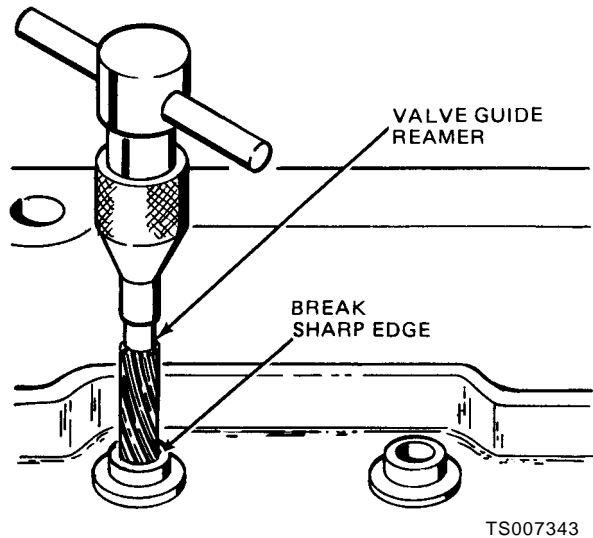

Figure 6-14. Reaming Valve Guides.
(5) Align the stud and installer with the stud bore, then tap the sliding driver until it bottoms. When the installer contacts the stud boss, the stud is installed to its correct height.
b. Reaming Valve Guides. If it becomes necessary to ream a valve guide (fig. 6-14) to install a valve with an oversize stem, a reaming kit is available which contains the following reamer and pilot combinations: an 0.003 inch OS reamer with a standard diameter pilot, an 0.015 inch OS reamer with an 0.003 inch OS pilot, and an 0.030 inch reamer with an 0.015 inch OS pilot.
(1) When reaming guides for oversize valves, use the smallest reamer first, then the finish size reamer.
(2) Use a suitable scraper or deburring tool to break the sharp edge at the top of the valve guide (fig. 6-14).
(3) Always reface seat after reaming valve guides.